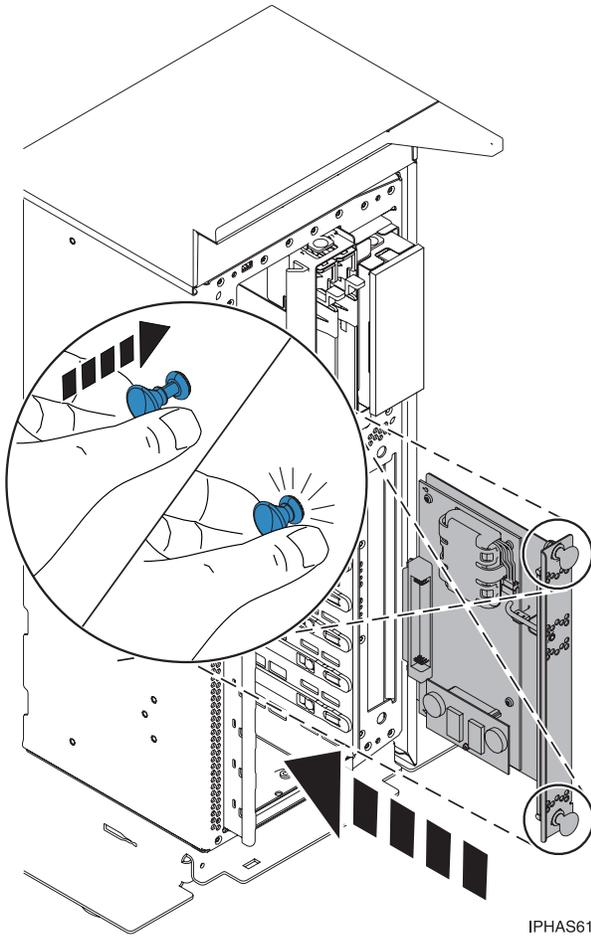
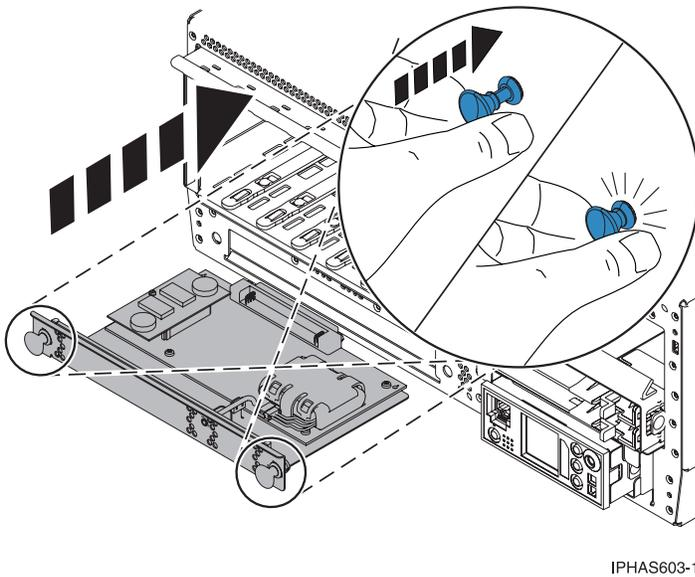

Figure 7. RAID enablement card replacement in a stand-alone system unit
Figure 8. RAID enablement card replacement in a rack-mounted system unit
4. Press in on the locking knobs until you feel them lock into place, as shown in Figure 7 on page 9 or Figure 8 on page 9.